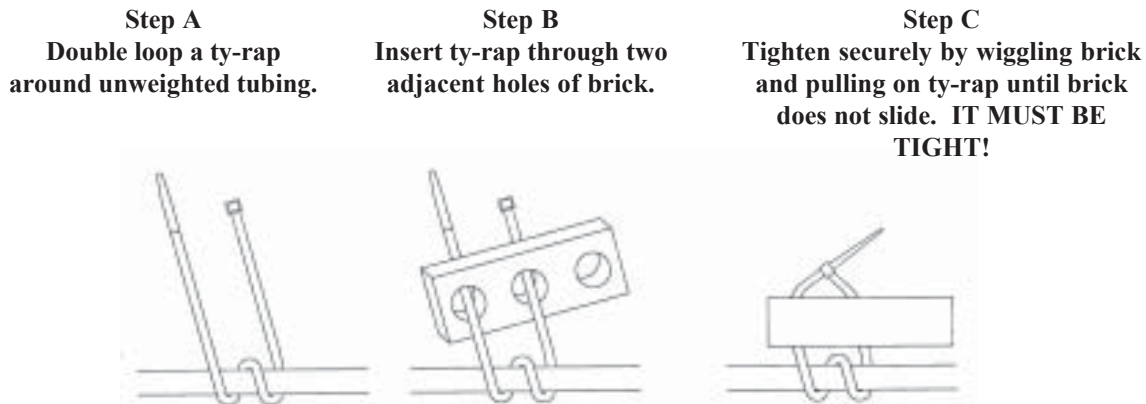

Figure 7
7. If unweighted tubing is used in the water it must be weighed down with bricks as shown in Figure 7. Place bricks 2-3 feet from the ends of the tubing and at 6-8 foot intervals thereafter.